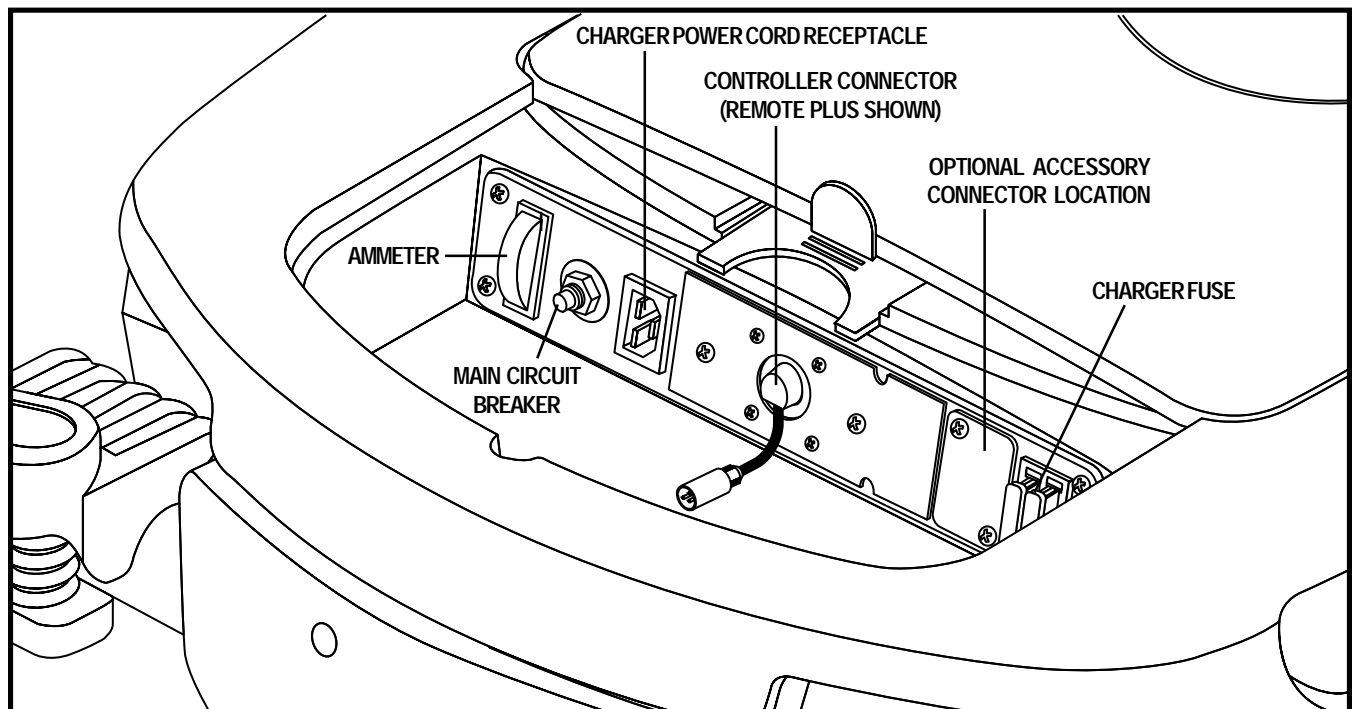

Figure 6. Electronics Tray
**Controller Connector:** This is where the controller connects to the power base. The VSI uses a large, 9-pin connector (not shown). The Remote Plus and Europa use smaller, multi-pin communications cable connectors. See figure 6.
7. Plug the controller connector into the electronics tray. See figure 6.